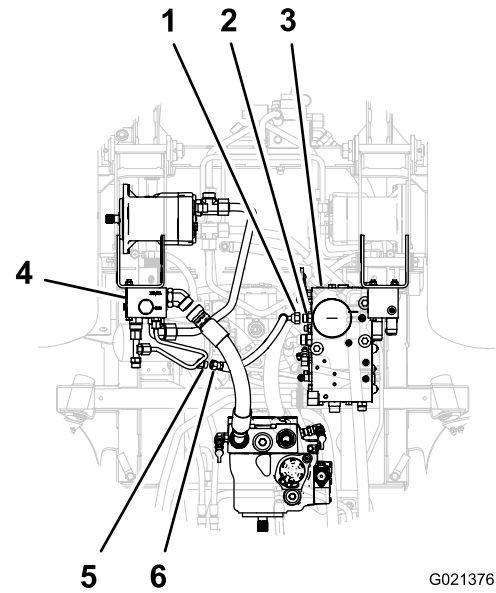

Figure 12
1. Align the straight fitting of the return hose with the threaded fitting of the tube manifold (Figure 12).
2. Align the 90° fitting of the return hose with the threaded fitting in the combination manifold (Figure 12).